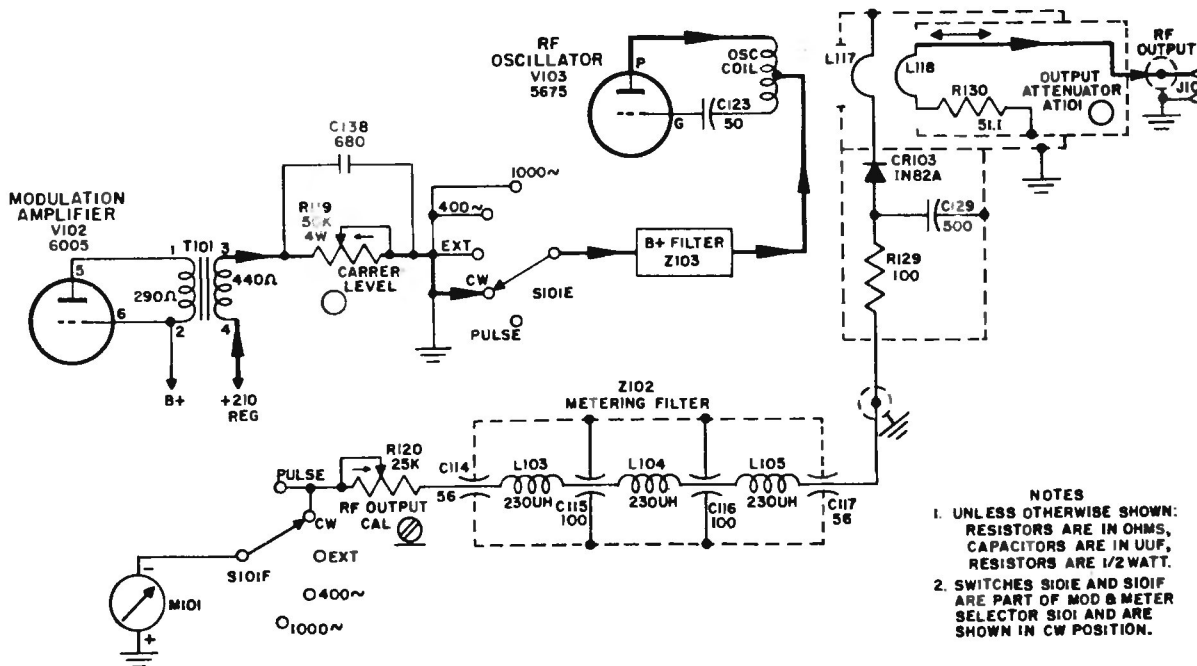

Figure 4-4. Simplified Schematic Diagram of the Waveguide-Below-Cutoff Attenuator and RF Level Monitoring.
d. CARRIER LEVEL MEASURING CIRCUIT. — (See figure 4-4.) The carrier level is measured *only* in CW position of MOD and METER SELECTOR knob. A small loop (L117) between the rf oscillator tank circuit and
e. VARIABLE RF OUTPUT ATTENUATOR. – (See figure 4-4.) The output coil L118 feeds the rf output, whether cw or modulated, to RF OUTPUT jack, J101, on the front panel. The output terminating resistor R130 is within the attenuator casing. The attenuator AT 101 is the Waveguide-Below-Cutoff type in which L118 is moved by a gear arrangement within a waveguide, varying its energy-pickup from the oscillator coil. The gearing includes the RF OUTPUT dial on the front panel, which reads directly on the outer logarithmic scale in microvolts and on the inner linear scale in (–) dbm.
Signal Generator SG-117/URM-26B has a characteristic output impedance of approximately 50 ohms (resistor R130) (see figure 4-4.). The microvolts input to a receiver under test will be accurate only when the signal generator is terminated in approximately 50 ohms resistive at the receiver end of the test cable. This voltage under terminated conditions is read directly on the MICROVOLTS scale of the RF OUTPUT dial. Two RF Cords 7' long and two RF Cords 4' -1" long are provided for making the necessary output connections (see figure 1-1). All four cables are identical except for length and consist of RG-58C/U cables with one type UG-88/U connector at each end. The characteristic impedance of these cables is approximately 50 ohms and there will be no standing wave losses between the signal generator and receiver if the receiver end is terminated in approximately 50 ohms. Most modern Navy receivers present a resistive input impedance of 50 ohms. This is especially true for receivers covering frequency ranges above 50 mc. In these cases, the output of the generator at the RF OUTPUT jack J101, can be connected direct to the receiver input. The microvolt reading determined from the RF OUTPUT dial will accurately represent the input voltage to the receiver under